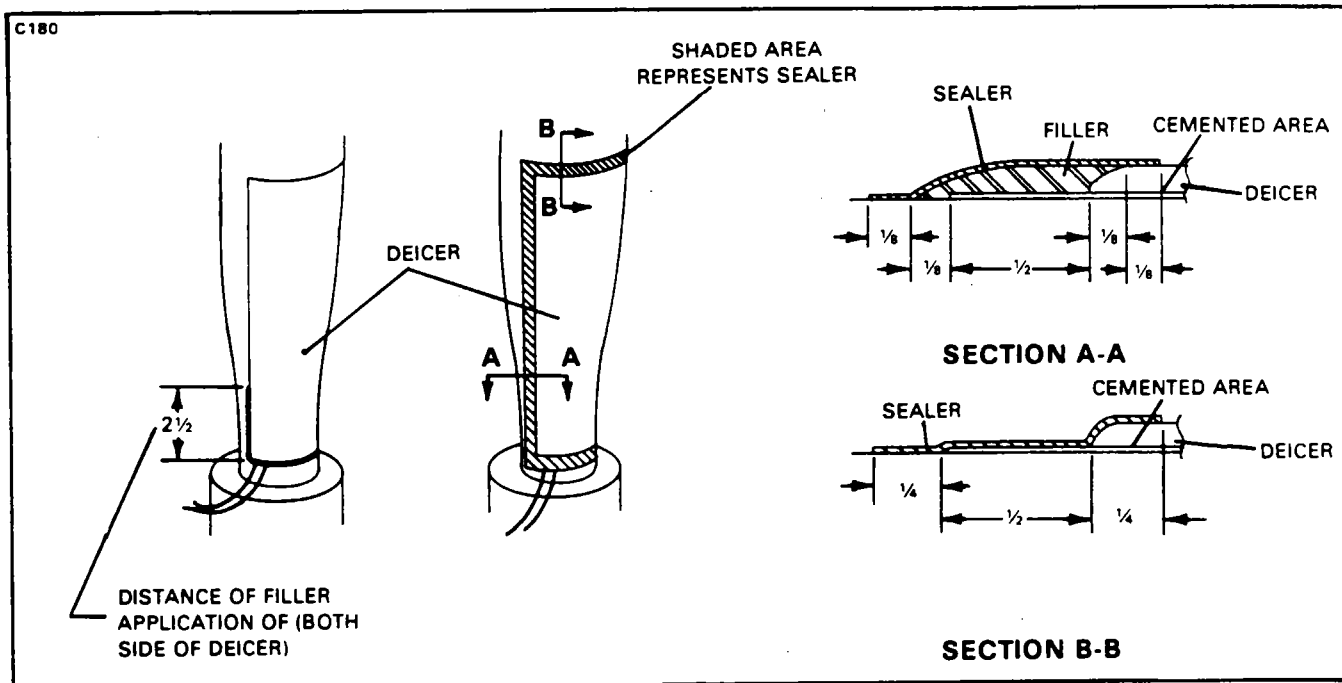

Figure 30-27. Typical Deicer Boot Sealer Application
7. Apply new masking tape approximately .125 inch beyond filler to allow application of sealer directly to the mounting surface. Apply one even brush coat of 82-076-1, 2 sealer (or C-19861, C-16176 paint) over .125 inch of mounting surface filled area and .250 inch of deicer. (See Figure 30-27.)
8. Insure that sealer completely covers area between deicer and blade on propeller. (See Figure 30-27.) Immediately remove masking tape and allow sealer to dry for 24 hours before starting engine.